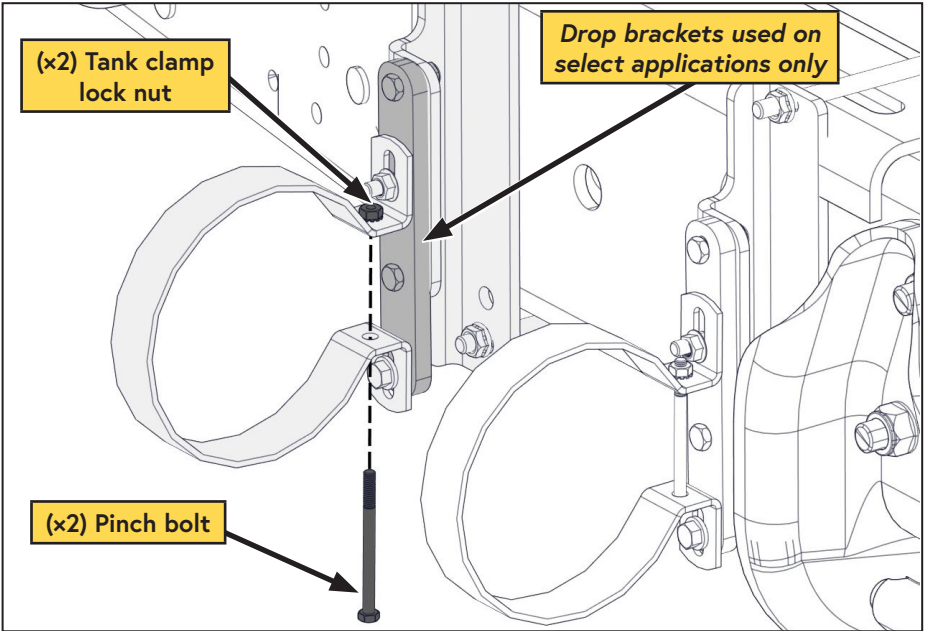

Figure 50 — Install AOST
- ☐ Remove the tank clamp pinch bolts and set them aside (Figure 50).
Install the tank onto the tank mounts (Figure 50):